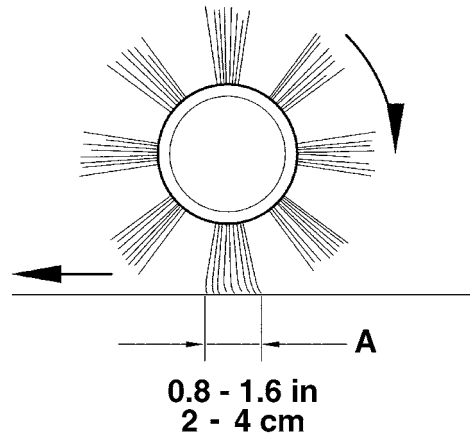

Figure 3
- Check that the main broom print (A, Fig. 3), along its length, is 0.8 to 1.6 in (2 to 4 cm) wide.
If it is not possible to adjust the print (A, Fig. 3) properly, because the pressure on the floor at the ends of the broom is different, refer to the Service Manual.